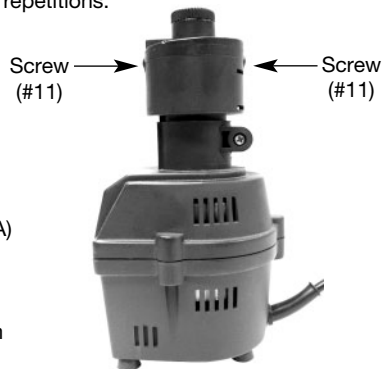

Figure 4 - Removing the Screws
- Step 2: Remove the two SCREWS (#11). See Figure 4.